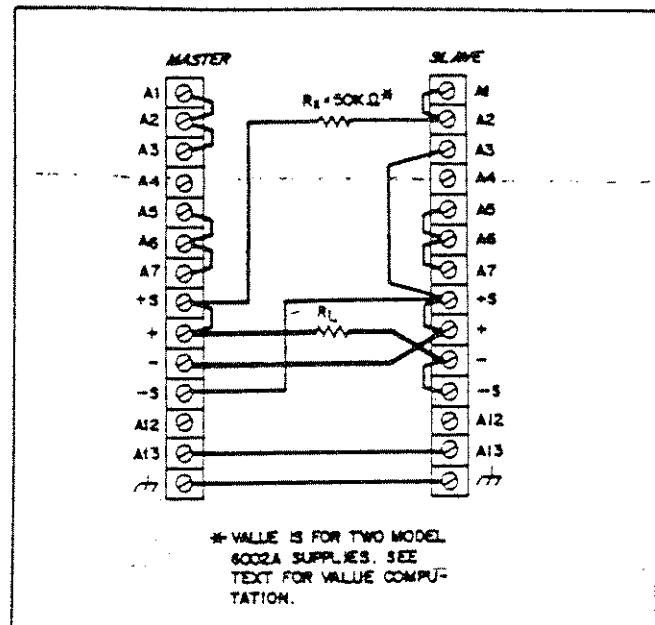

Figure 3-11. Auto-Series Operation of Two Units
**3-56 Auto-series operation** provides greater output voltage capability than that available from one supply. A maximum of three units can be used in this configuration. Figures 3-11 and 3-12 show the rear panel and circuit board interconnections required to operate two or three supplies in auto-series. This mode of operation allows the series-connected supplies to be simultaneously programmed by the voltage and current controls of a master supply. The master supply must always be the one at the positive end of the series combination. The output voltage of each slave supply varies in direct proportion to that of the master and the ratio of each slave's output voltage to the master's is established by the settings of the slave supplies' voltage controls. The resulting combination of two or three supplies behaves as if it were a single constant-voltage/constant-current supply. The supply with the lowest current setting limits the maximum output current of the combination. Mixed model numbers can be employed in auto-series combination, provided that each slave is capable of auto-series operation. Any well-regulated, variable output supply can be used as the master.
3-62 Overvoltage Protection in Auto-Series. The interconnections shown in Figures 3-11 and 3-12 between the external crowbar trigger terminals on the master and on the slave(s) must be made to permit the overvoltage crowbar in any one of the interconnected supplies to fire the SCRs in all of them if an overvoltage condition occurs. Be sure to connect them with the polarity shown. Set the overvoltage potentiometer in each supply so that it trips at a point slightly above the voltage that supply will contribute.